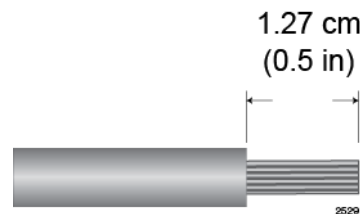

Figure 116. Stripping the Stranded Grounding Wire
1. Prepare an adequate length of stranded 10 AWG grounding wire by stripping it as shown in Figure 116.